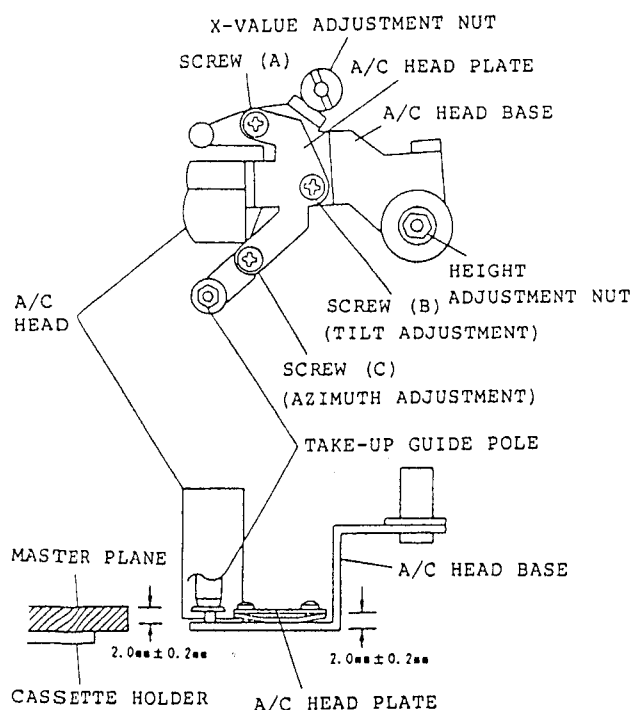

Fig. 3-12
(Figs. 3-12, 3-13, 3-14, 3-15)
- 2) Adjust the height adjustment nut so that the top of the master plane is 2.0 ± 0.2 mm higher than the A/C head base. (See Fig. 3-12)
- 3) Adjust screws (A), (B) and (C) so that there is 2.0 ± 0.2 mm between the bottom edges of the A/C head plate and A/C head base, and the A/C head is at right angles to the A/C head base.
- 6) Adjust screws (A), (B) and (C) so that the audio output is maximum and flat (without fluctuations). (See Figs. 3-12, 3-13)